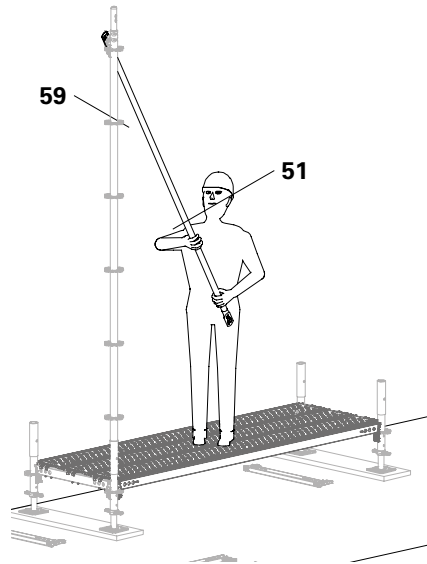

Fig. A3.02a
3. Attach the Guardrail Posts EPG (51) to the Guardrail Holder EPW (59) and place the other side on the deck (Fig. A3.02a)
4. Set the second standard (18) with the pre-attached guardrail holder down on the deck and attach the free guardrail post side to the guardrail hook.